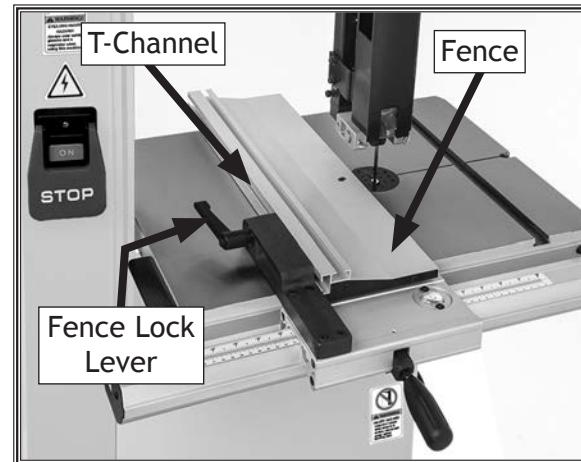

Figure 31. Fence installed in horizontal position.
- For *thin* workpieces, mount fence in horizontal position, as shown in **Figure 31**, then rotate fence base lock lever to secure.